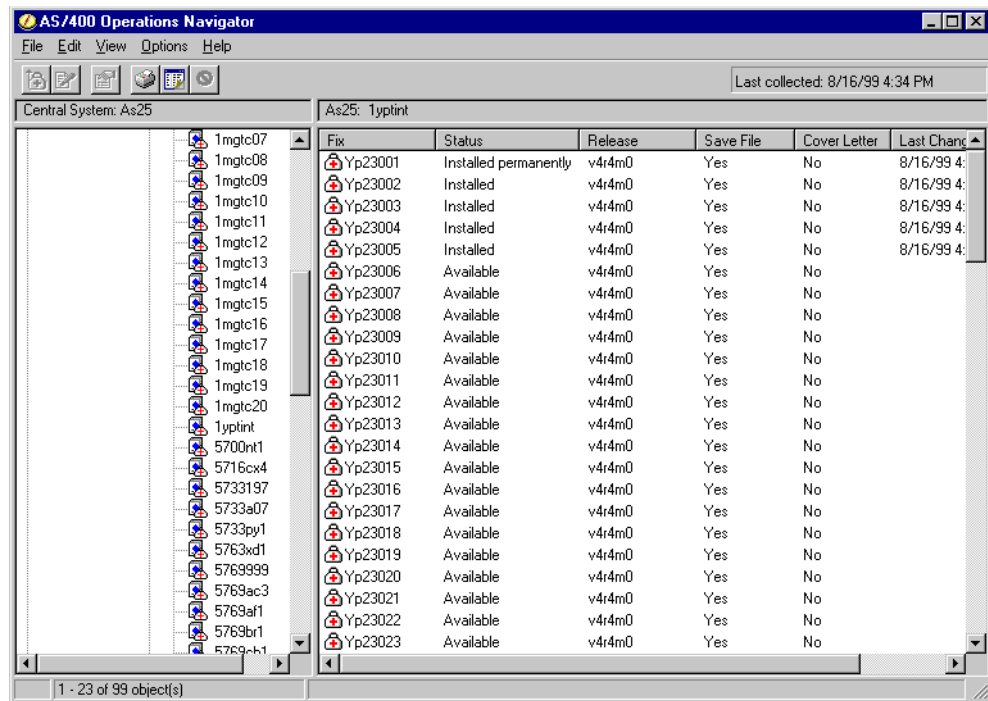

Figure 78. Fix Status
4. Click on the licensed program product for which you wish to install the fix. A list of fixes for that product appears in the right-hand panel, as shown in Figure 78 on page 103.
- To sort the fixes for this product by status, click the **Status heading** as shown in Figure 78. Only fixes with *Available* status can be installed.
4. Click on the licensed program product for which you wish to send the fix. A list of fixes for that product appears in the right-hand panel, as shown in Figure 78 on page 103.